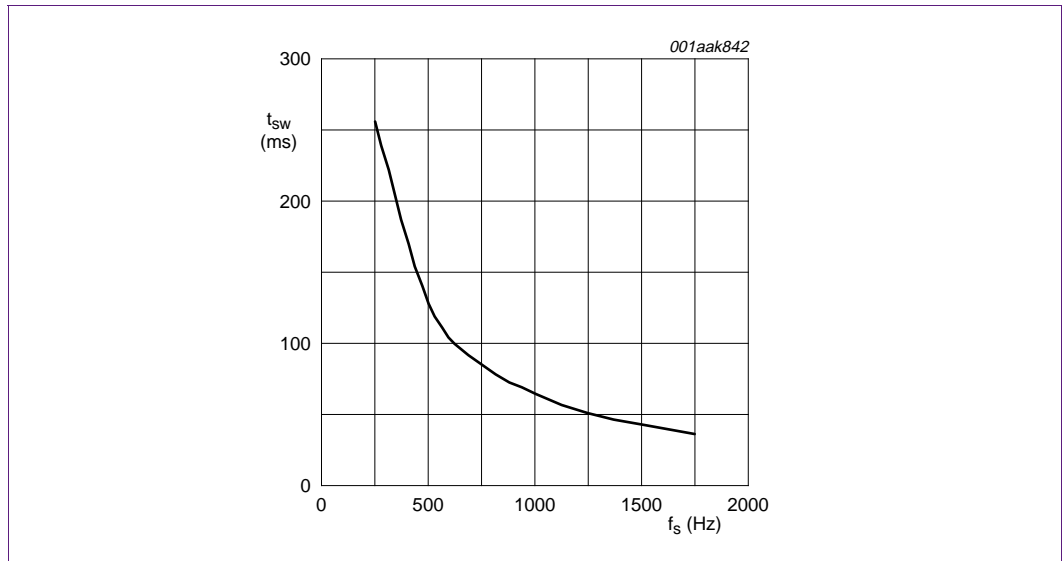

Fig 2. Switching time (t_{sw}) with respect to sampling frequency (f_s)
The clock frequency can be derived from $f_{osc}/n = f_{clk}$ where $n = 1, 4, 16, \text{ or } 64$. The switching time vs. sampling frequency is shown in Figure 2.
- Fig 2. Switching time (t_{sw}) with respect to sampling frequency (f_s)6